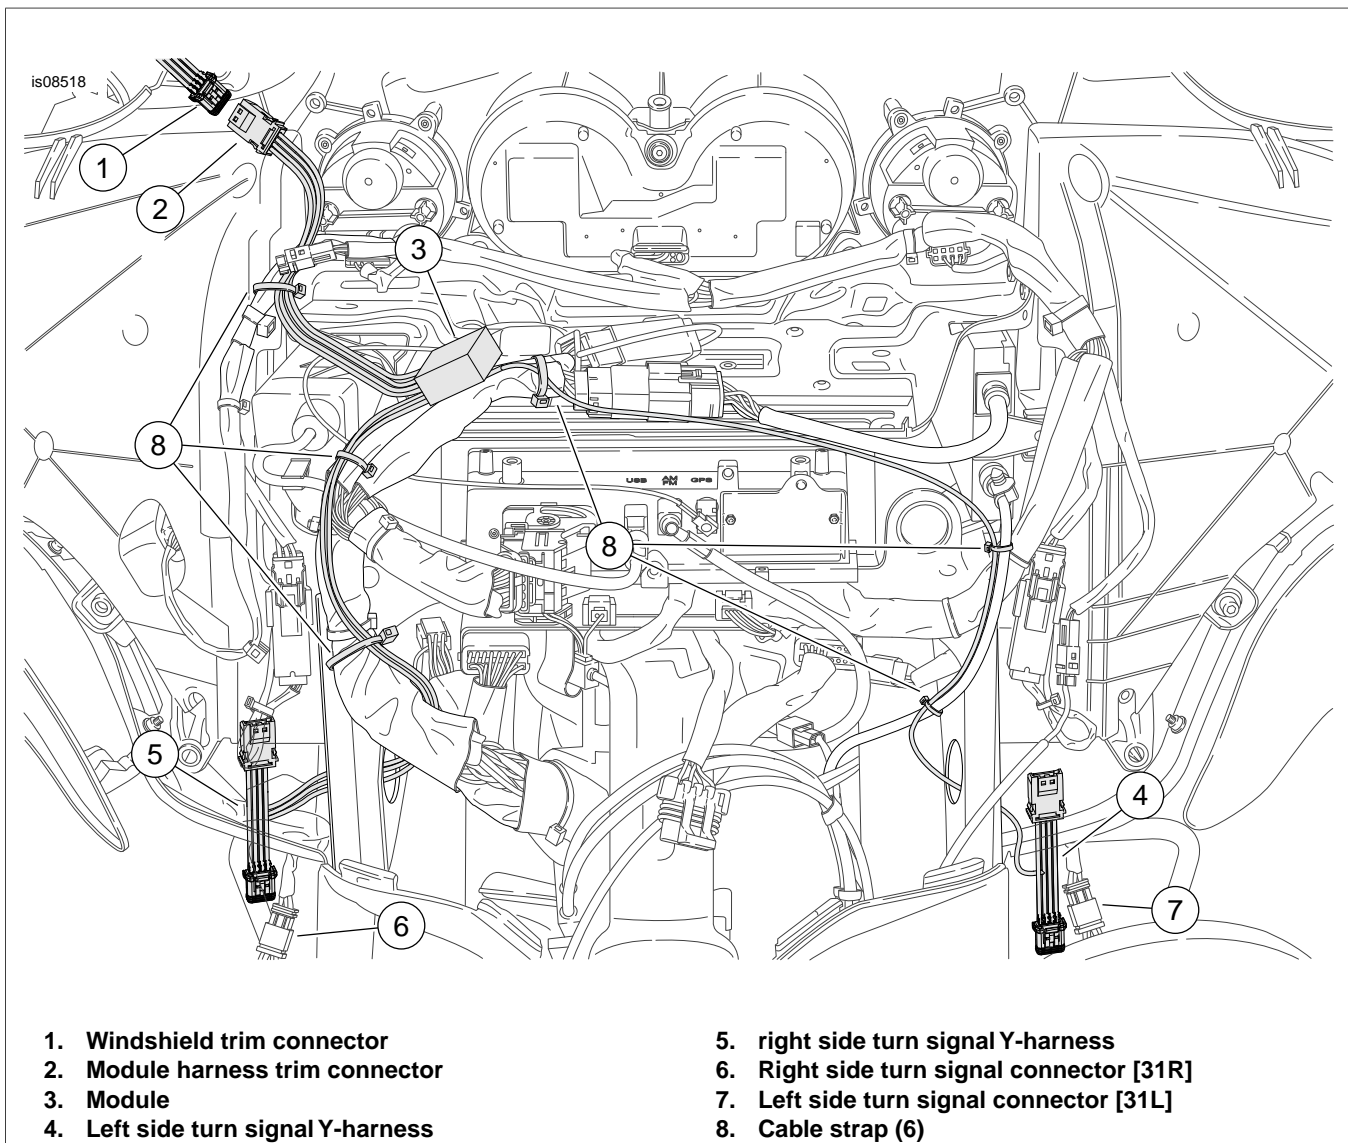

Figure 1. Module Harness Routing Example
An example of the module harness routing is shown in Figure 1. The configuration of the inner fairing components can require a different routing.
2. Route the module harness similarly to the routing shown in Figure 1. When finished, the routing should:
- a. Secure harness module (3) to harness connector or other feature with a cable strap (8).
- b. Route the left side turn signal Y-harness (4) (one wire) to the left side fairing thru-hole to gain access to the turn signal bracket location.
- c. Route the right side turn signal Y-harness (5) (three wire) to the right side thru-hole to gain access to the turn signal bracket location.
- d. Route windshield trim connector (2) to the area of the right side windshield mounting location.
- e. Secure all harness wiring to existing harnesses with cable straps (8).
4. See Figure 1. Connect windshield trim connector (1) to the module harness trim connector (2).